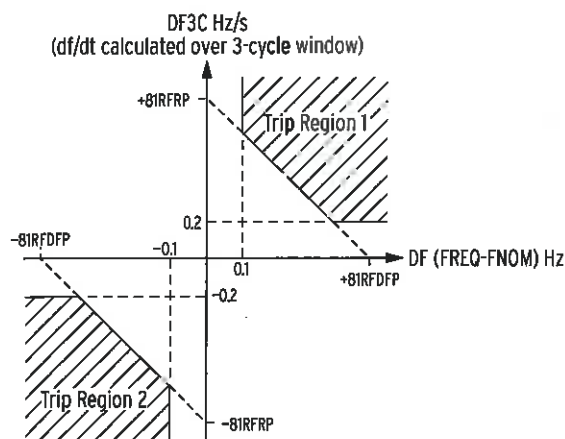

Figure 3 81RF Characteristic
The fast rate-of-change of frequency protection, 81RF, provides a faster response compared to frequency (81) and rate-of-change of frequency (81R) elements. The fast operating speed makes the 81RF element suitable for detecting islanding conditions. The element uses a characteristic (see *Figure 3*) based on the frequency deviation from nominal frequency ($\Delta f = \text{FREQ} - \text{FNOM}$) and the rate-of-change of frequency (DF3C) to detect islanding conditions. A time window of three cycles is used to calculate the value of DF3C. Under steady state conditions, the operating point is close to the origin. During islanding conditions, the operating point enters Trip Region 1 or Trip Region 2 of the characteristic, depending on the acceleration or deceleration of the islanded system. (81RDFDP in Hz) and (81RFRP in Hz/sec) are the settings used to configure the characteristic.